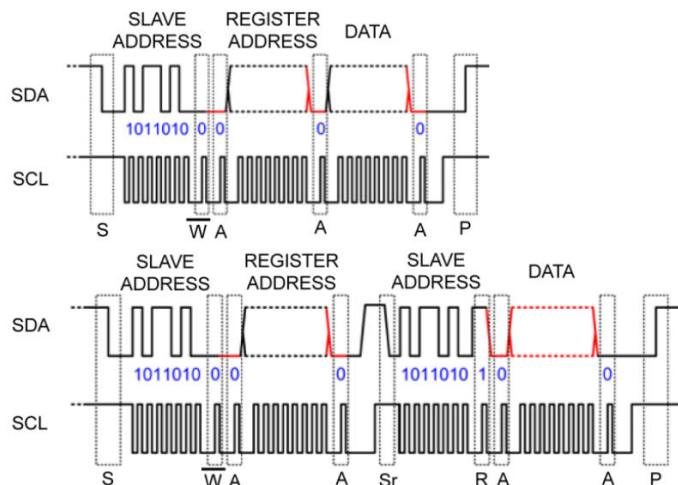

Figure 2. I²C Timing Example
Figure 2 shows the communications required for write and read operations via the I²C interface. The black lines show master communications and the red lines show the slave communications. During a write operation the master must drive SDA and SCL for all stages except the acknowledgement (A) shown in red, which are provided by the slave (MIC2870):